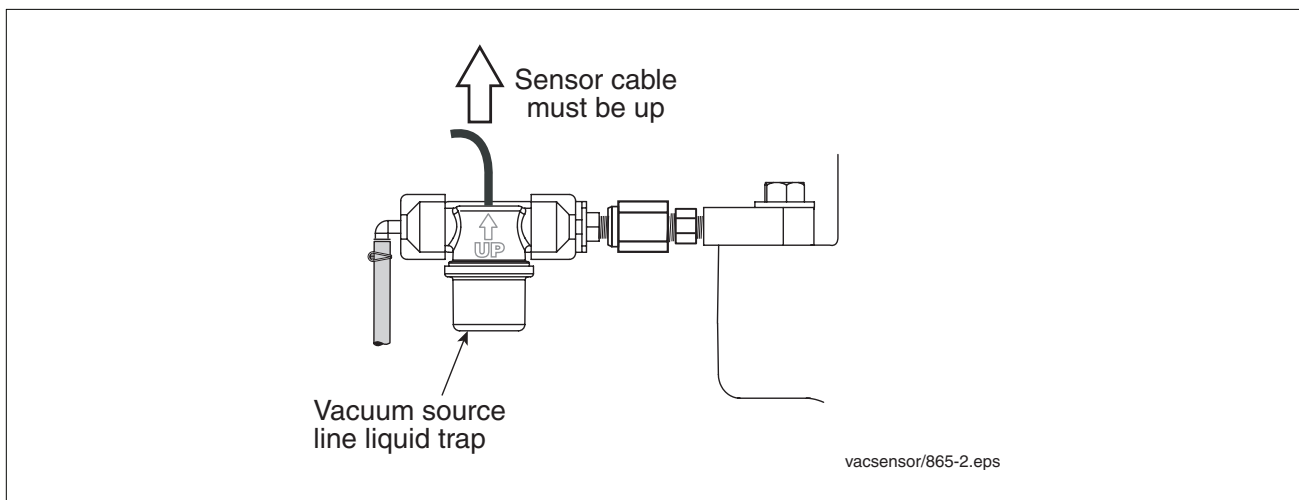

Figure 2. Orienting Vac Source Line Liquid Sensor
2. Ensure that the Vacuum Source Line Liquid Sensor is tightened securely and orientated as shown in Figure 2.